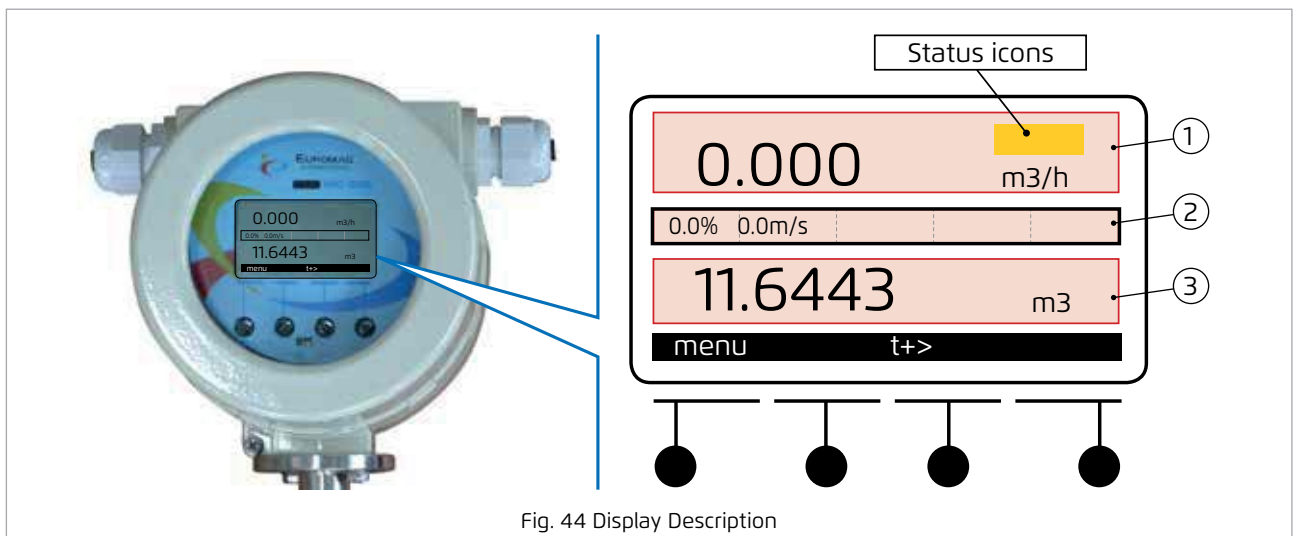

Fig. 44 Display Description
With reference to Figure 44, the converter display is divided into 3 main areas:
- The top area (see 1, Fig. 44) contains the status information symbols, with indicators of battery life (MC608B and MC608R), power supply (MC608A) or power supply and battery recharge (MC608R), as well as the alarm symbols and instantaneous reading of the flow rate (for more information on the icons that can be displayed and their meanings see paragraph "5.2.2 Identification and description of status icons").
- The central area (see 2, Fig. 44) contains a linear graph of the flow rate expressed as a percentage of the full scale
- The bottom area (see 3, Fig. 44) can be selected by the client and possible options are: